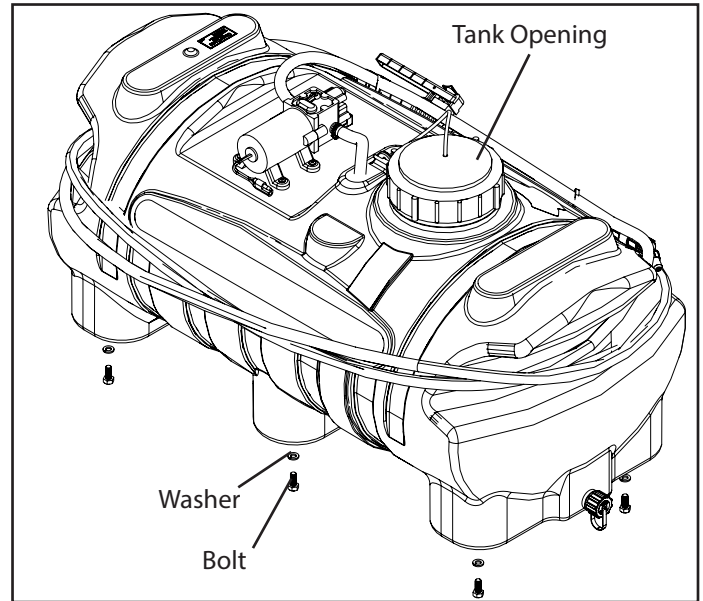

Figure 3: Mounting the sprayer with bolts
2. The chosen mounting location should also be easily accessible for filling the sprayer's tank (Figure 3).